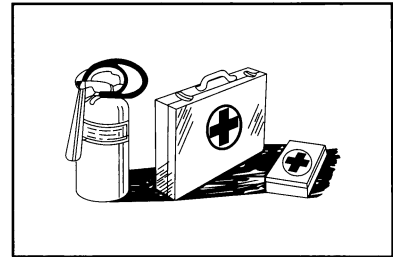

Figure1-34
- Some useful telephone numbers must be pasted on a obvious place, such as telephone number of doctors or hospitals, ensure all people know these telephone numbers and know the communicating method. (Figure 1-34)